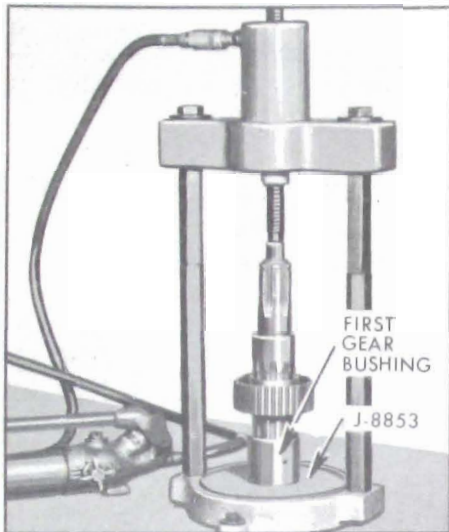

Figure 4-66—Installing First Speed Gear Bushing Using J-8853
1. From rear of mainshaft, assemble first and second speed clutch assembly to mainshaft (sliding clutch sleeve taper toward the rear, hub to the front) and, using J-8853, press the first gear bushing on shaft. See Figure 4-66.